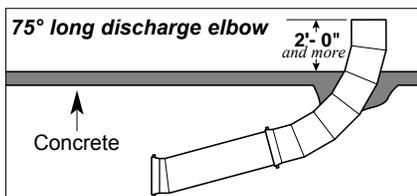

fig. 5
- The **75° long discharge elbow** — see *fig. 5 and pages 19, 20*.